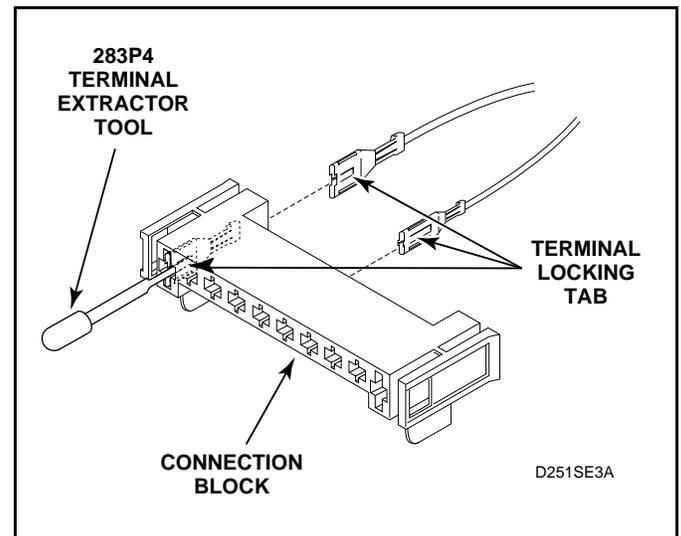

Figure 46
- (1.) Insert the tool into the block on the back of the terminal being removed. See *Figure 46*.
- (2.) Apply tool pressure to compress the terminal locking tab on terminal and force the terminal and wire out back side of connection block. See *Figure 46*.